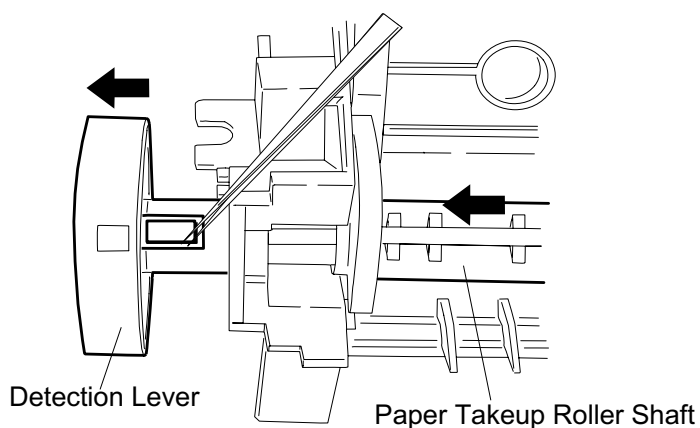

Figure 3-33. Detection Wheel Removal
4. Shift the LD roller shaft left about 2 cm (1"). Then, using tweezers, release the tab fixing the detection wheel at the left edge of the LD roller shaft. (See Figure 3-33.)